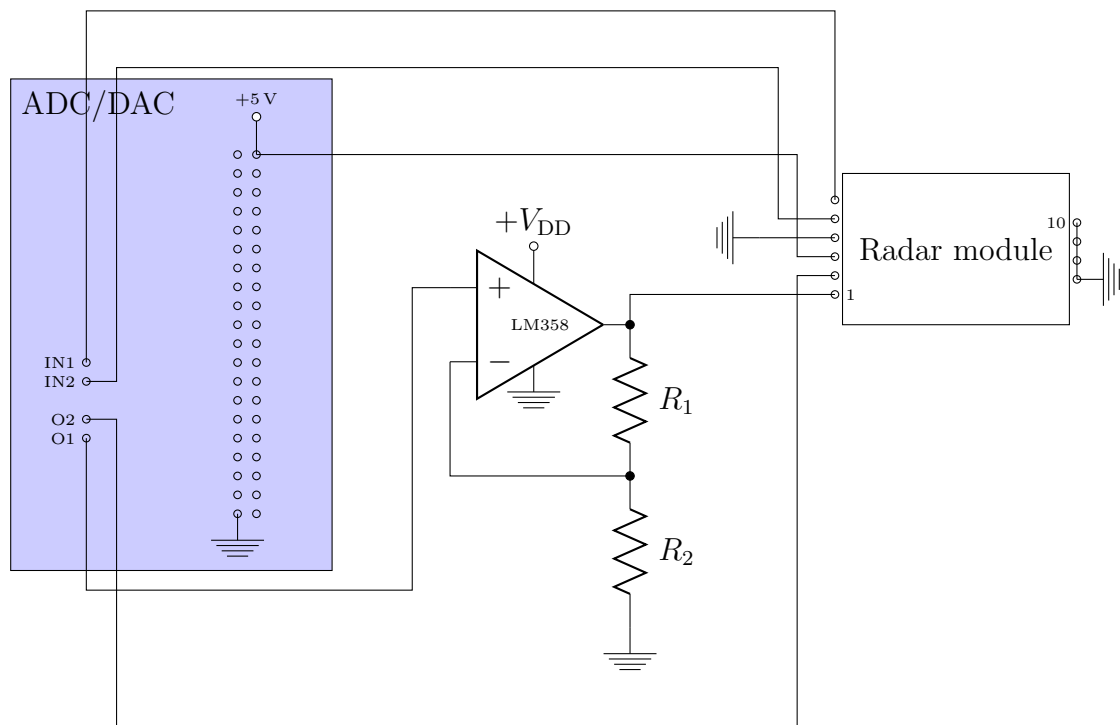

Figure 8: Schematic of the radar system.
- (a) The schematic of the wiring is shown in Figure 8. Note that the actual capsule used for the LM358 contains two OP:s, but we are only using one. See separate datasheet for the LM358 and the radar module.